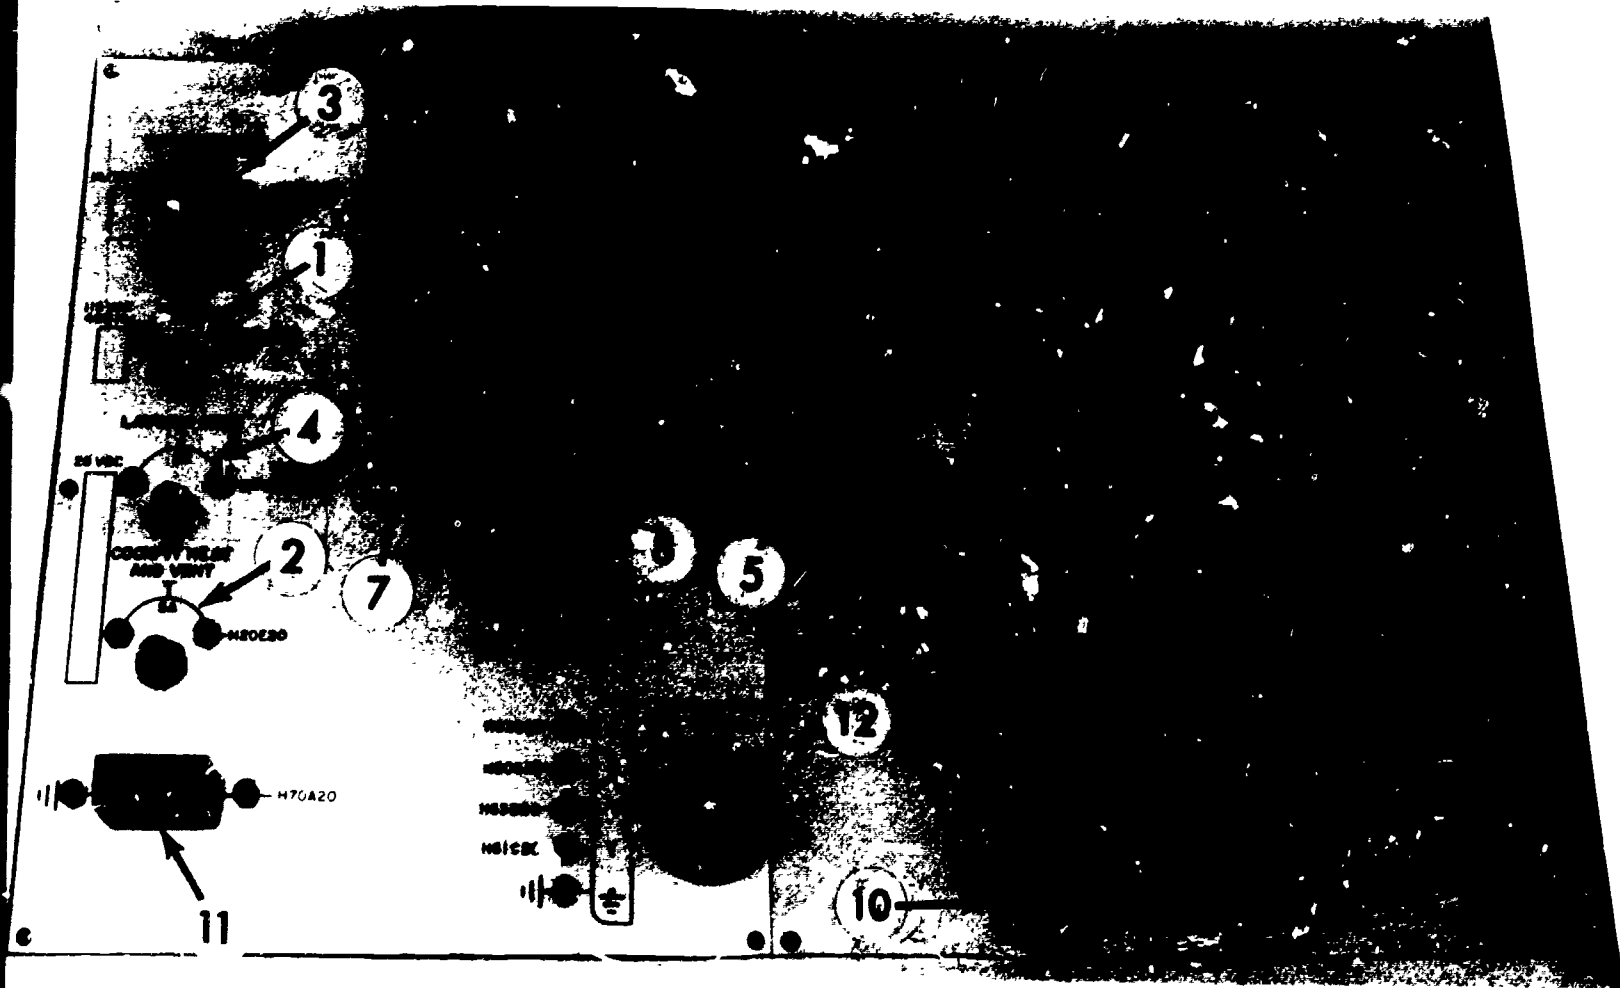

Figure 2. Fighter Air Conditioning Trainer.
- (1) Bleed air pressure regulator and shutoff valve.
- (2) Cabin dual temperature mixing valve.
- (3) Ground cooling ejector shutoff valve.
- (4) Cabin temperature sensor.
- (5) Cabin manual temperature limiter.
- (6) Turbine overspeed pressure switch.
- (7) Emer air inlet valve.
- (8) Water separator.
- (9) Anti-ice valve.
- (10) Anti-ice controller.
b. Using the trainer and figure 2, locate each of the numbered items. Write the names of each item in the blank space. As you locate the items notice the check points for checking the electrical circuit.
- (1) \_\_\_\_\_
- (2) \_\_\_\_\_
- (3) \_\_\_\_\_
- (4) \_\_\_\_\_
- (5) \_\_\_\_\_
- (6) \_\_\_\_\_
- (7) \_\_\_\_\_
- (8) \_\_\_\_\_
- (9) \_\_\_\_\_
- (10) \_\_\_\_\_